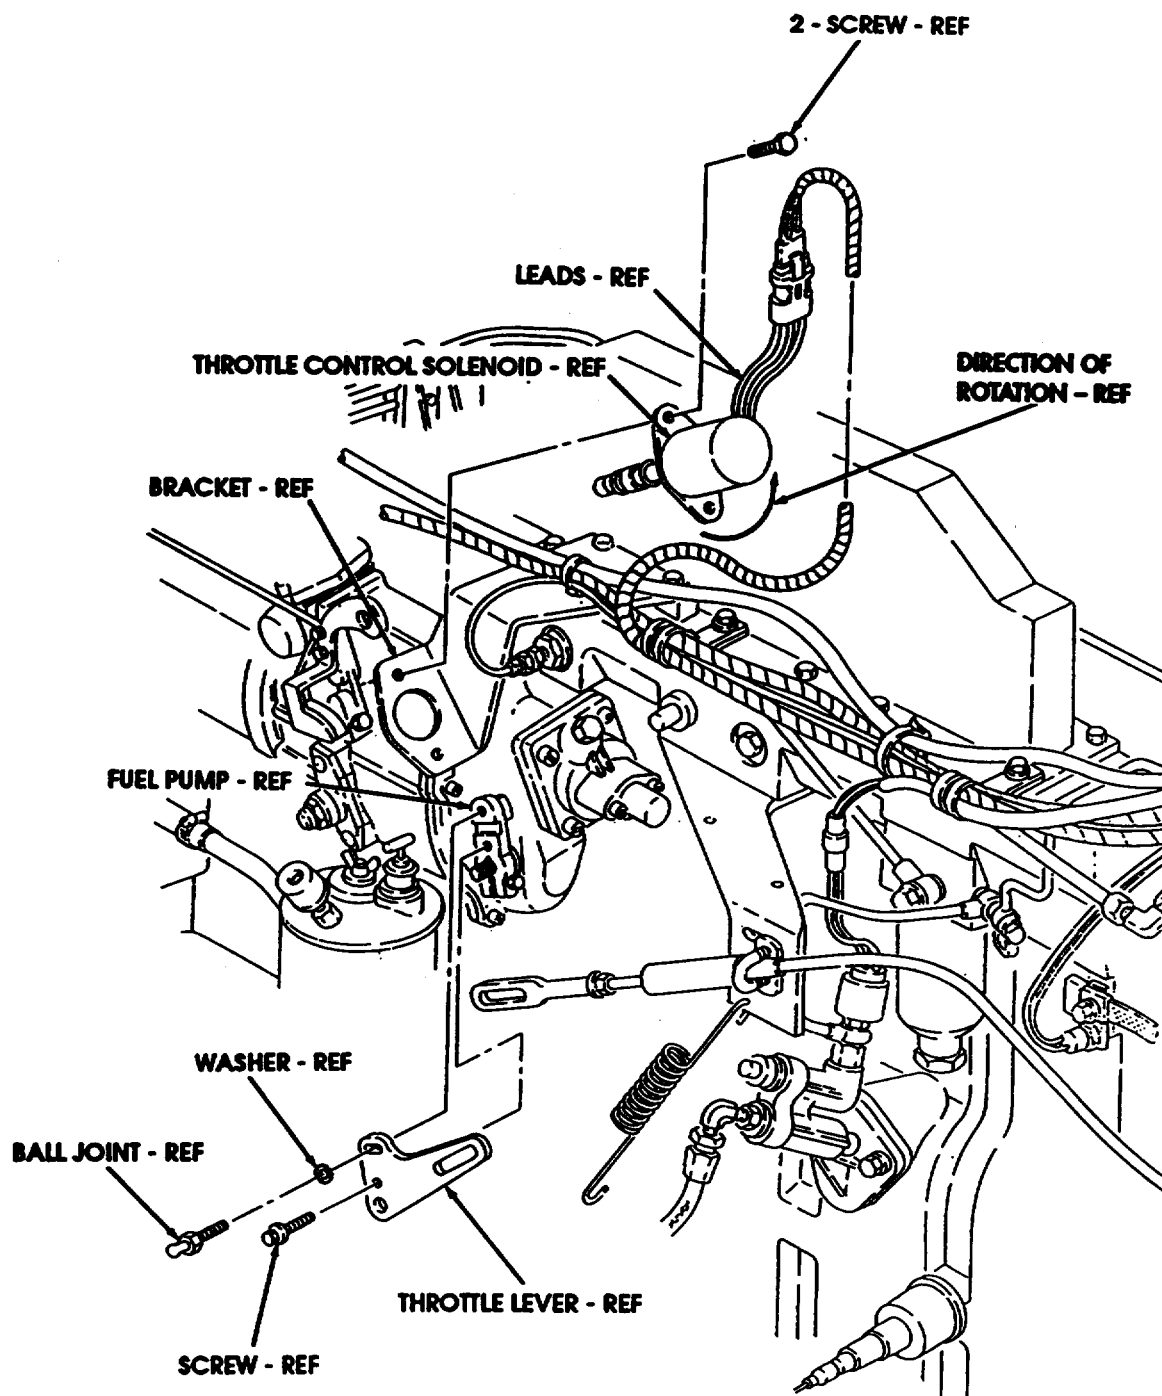

FIGURE 5
- (10) Remove spring from throttle lever as shown in figure 5.
- (11) Remove clip pin, washer, and modulator cable from throttle lever as shown in figure 5.
- (12) Remove nut, washer, and shoulder pin from throttle lever as shown in figure 5.
- (1) Transfer mark from existing throttle lever to 12363633-1 throttle extension lever as shown in figures 5 and 7.